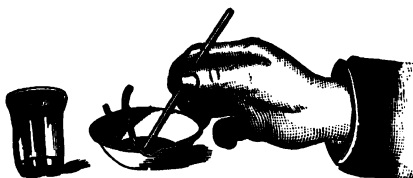

Fig. 24.
(Fig. 24). Dip the end of a strip of blue litmus paper into it. State results. (2) Rinse the e.d., then put in a few drops HNO_3 and 5 $^{\circ}$ H_2O , stir and test as before. (3) Test